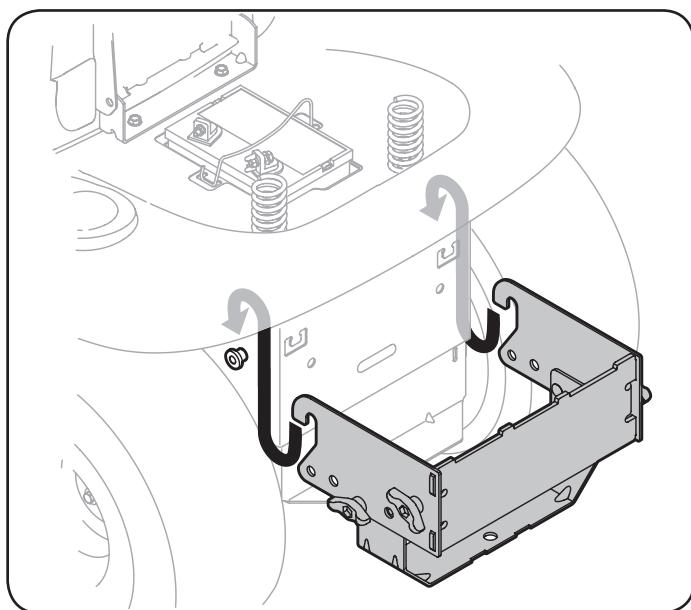

Figure 8
1. Place the hooked ends of the mounting assembly over the shoulder bolts on the back of the tractor frame, as shown in Figure 8, and line up the hitch support bracket center hole with the hole on the tractor's hitch.